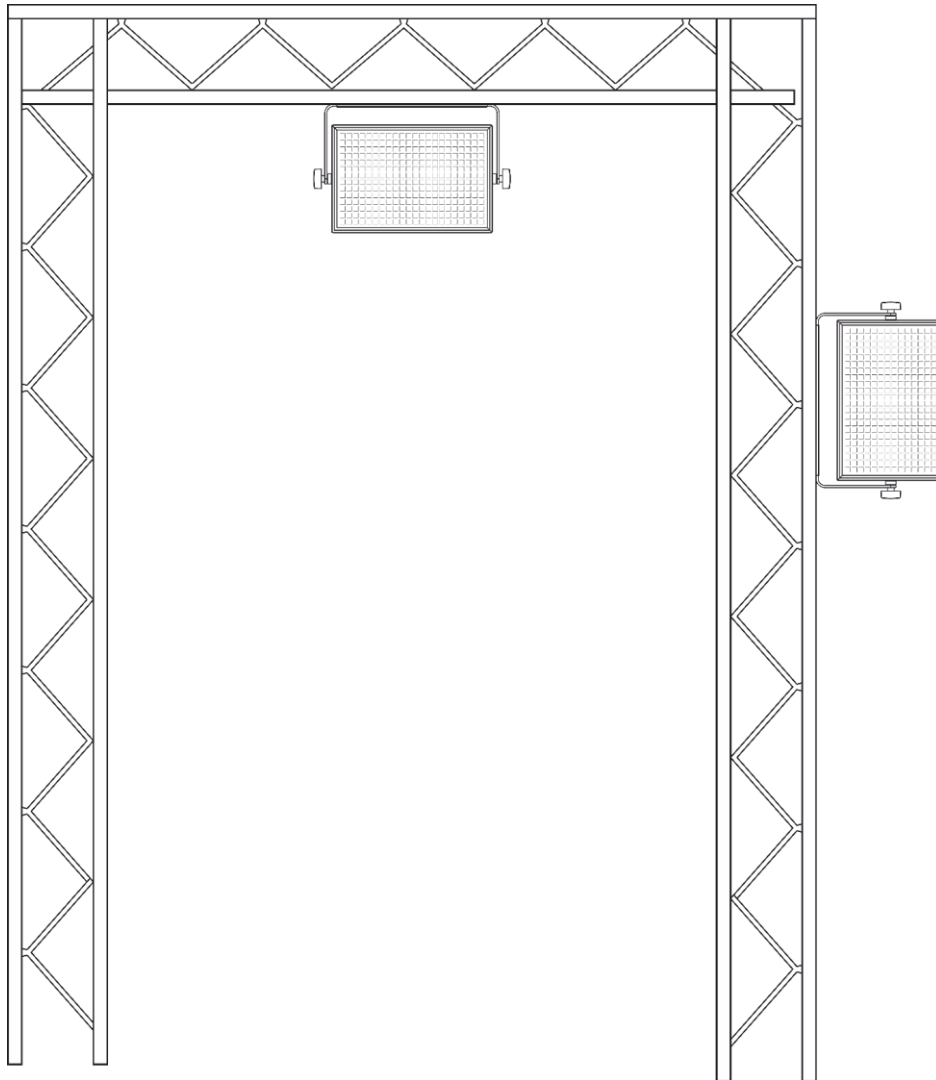

Fig. 05
- 01) Use a clamp to attach the device to the supporting structure, as shown in Fig. 05. Make sure that the device cannot move freely.